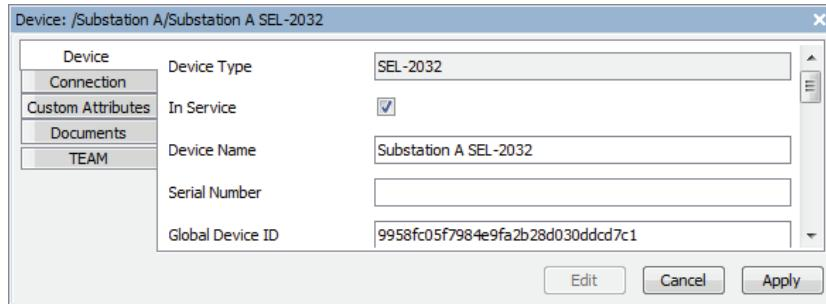

Figure 50 Communications Processor Device Tab
- Step 2. Select the **Edit** button to modify device parameters. Select the **In Service** check box displayed in *Figure 50*.